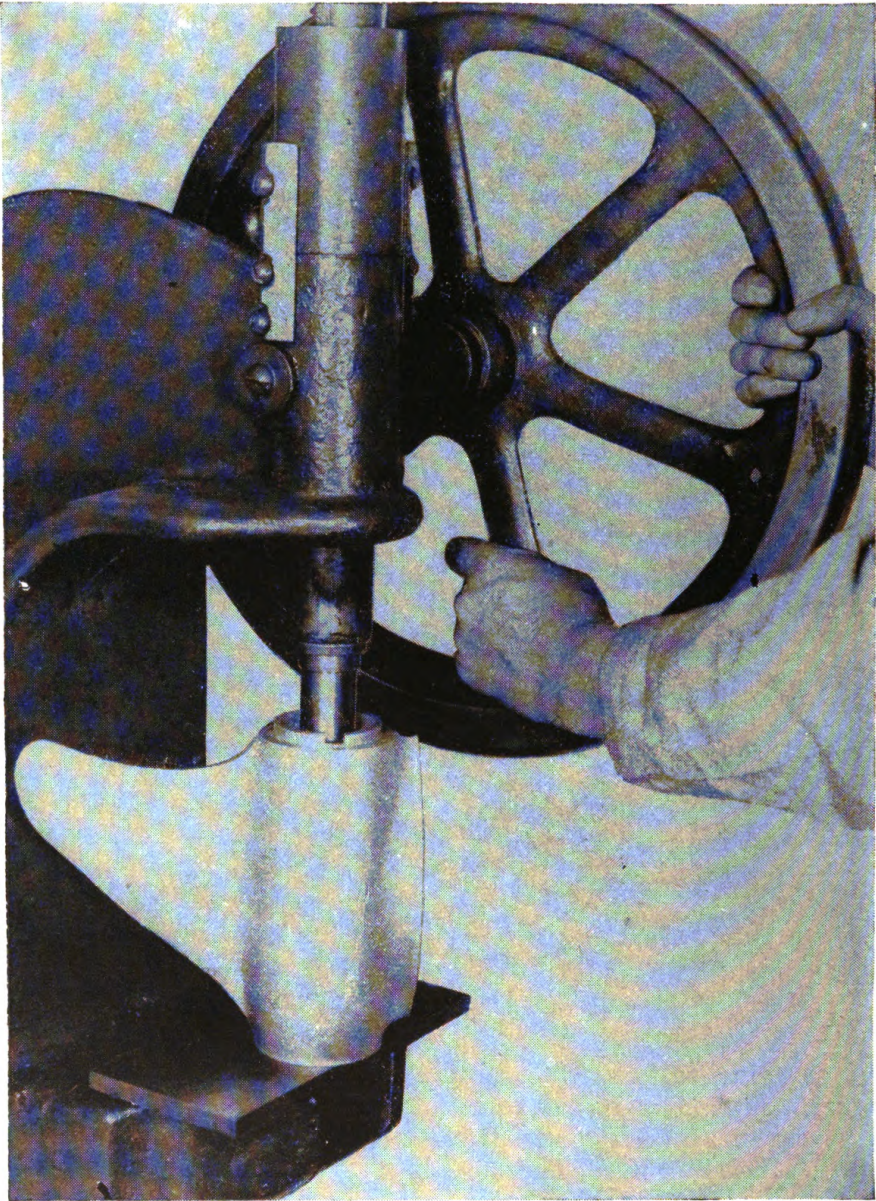

Figure 122. Installing bushing in gearcase.
(2) To install a new propeller-shaft bearing or bushing the old one must be removed. This can be done by driving it out on an arbor press as in removing journal bearings. Place gear case on table of press with bushing downward, opposite from position shown in figure 122. Use round bar or mandrel slightly smaller than bushing to permit driving